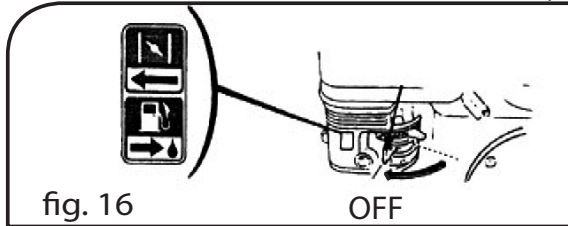

fig. 16
2. Set the fuel cock to the OFF position (Fig. 16).